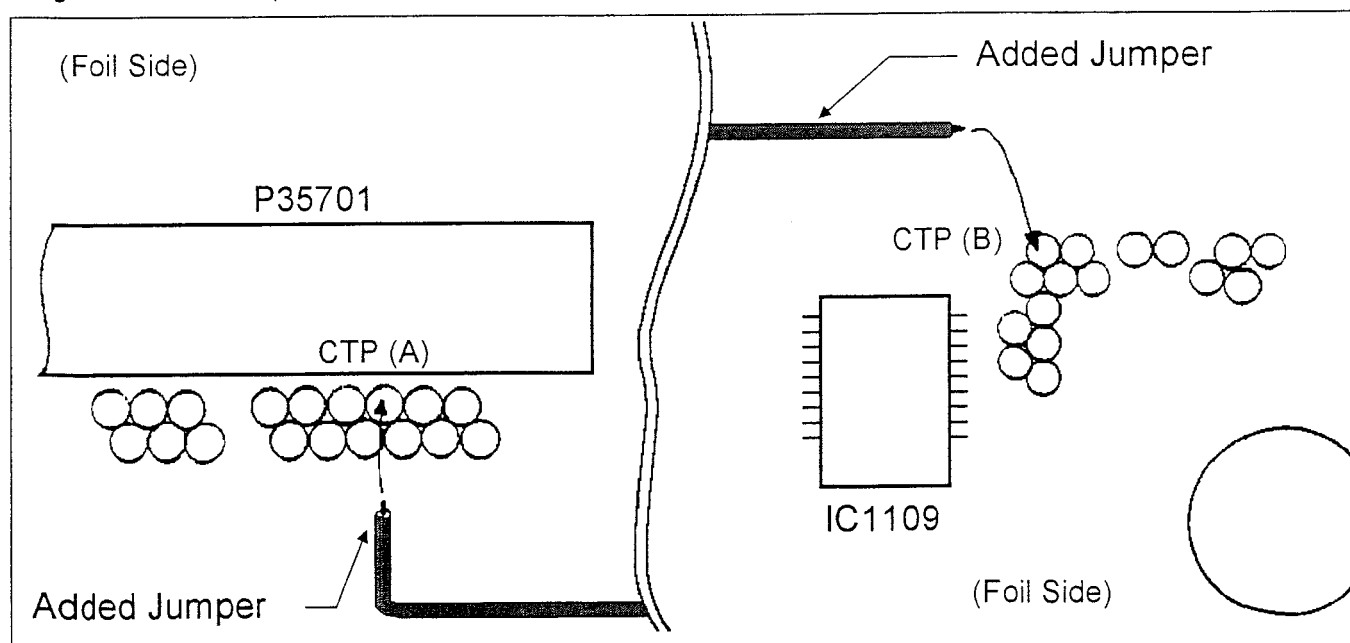

Fig. 1 Page 3-1
1. Connect a jumper wire between the CTP (A) (near P35701) and CTP (B) (near IC1109) on the foil side as shown in figure 1.